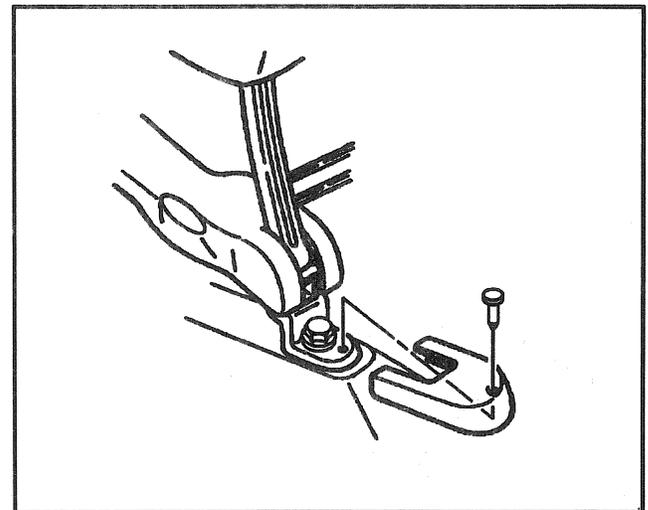

Figure 11—Seat Retaining Bolts and Components (Utility)
2. Seat retaining bolts (Figure 11).